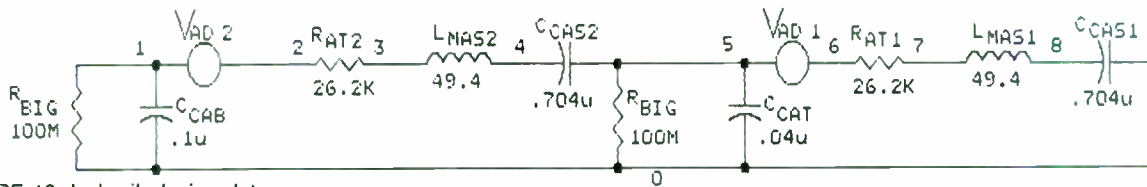

FIGURE 10: Isobarik design data.
**Isobarik.** As Fig. 10 indicates, an Isobarik speaker system consists of two cones driven in parallel; one is internal, with one surface connected to a simple enclosure, while its other surface is connected to the exterior driver by another, typically small, simple enclosure. In the equivalent circuit, the drivers are represented by two voltage sources with their respective components.